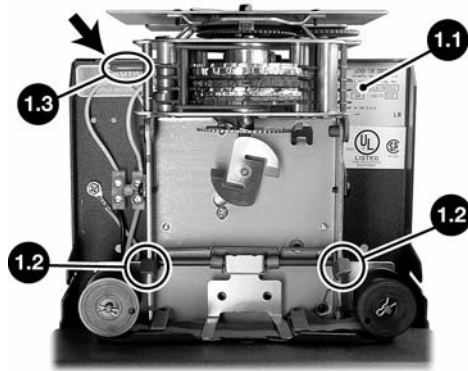

Figure 1
*Example: Since the fourth digit in the model number 2104 is a "4", it will print with 00-59 minutes and 00-23 hours (see table above). The model number is located on the Label 1.1 positioned as shown in Figure 1.*
4. Press either side of the **Type Section Headlock** - Figure 1, 1.2 and pull upward on the lower part of the Clock Face until the Type Section locks in the up position as shown in Figure 1. Note position of the Overthrow Lever and the Setting Wheel.
5. Press the red **Overthrow Lever** - Figure 1, 1.3 away from you until it clicks. This releases the wheels allowing them to turn.